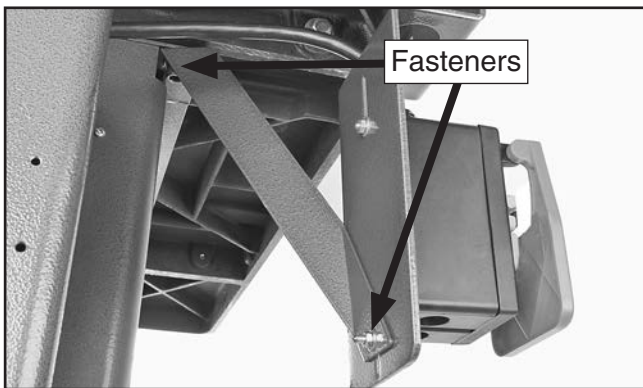

Figure 21. Switch bracket installed.
- Mount switch brace, as shown in **Figure 21**, using pre-installed table mounting fasteners on top end and switch mounting fasteners on bottom end.